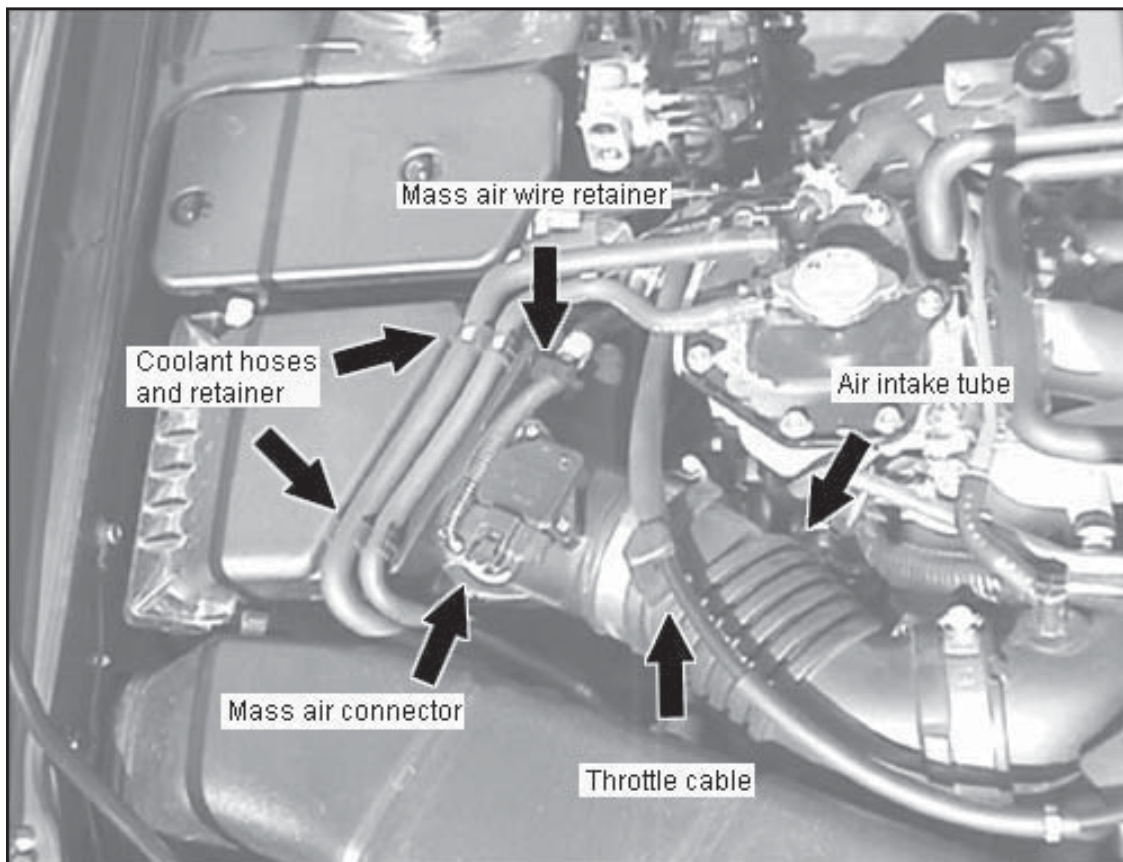

Fig. 1
1. Loosen hose clamp that connects the air intake tube to the airbox lid and the hose clamp that connects the air intake tube to the air intake duct. (Fig 1)